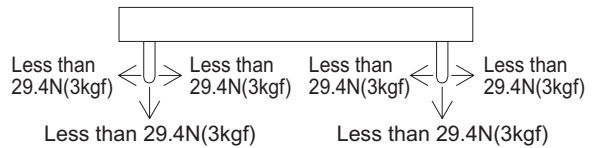

Fig.8.1 Stress onto the pin
- When too much stress is applied on the input/output pins of the unit, the internal connection may be weakened. As below in Fig. 8.1, avoid applying stress of more than 29.4N(3kgf) on the pins horizontally and/or vertically.